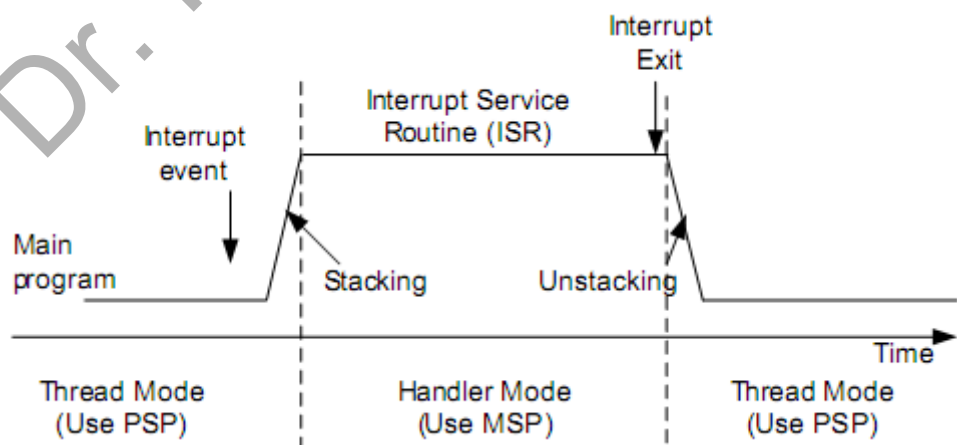

Figure 24: SPSEL = 1. Thread Level uses the Process Stack and Handler uses the Main Stack
- In simple applications without an OS, both Thread mode and Handler mode can use MSP only. This is shown in figure 24 After an interrupt event is triggered, the processor first pushes a number of registers into the stack before entering the Interrupt Service Routine (ISR). This register state saving operation is called “Stacking,” and at the end of the ISR, these registers are restored to the register bank and this operation is called “Unstacking.”
- As a result, the PSP is used and switching of SP selection takes place in exception entry and exception exit. This is shown in Figure 24.